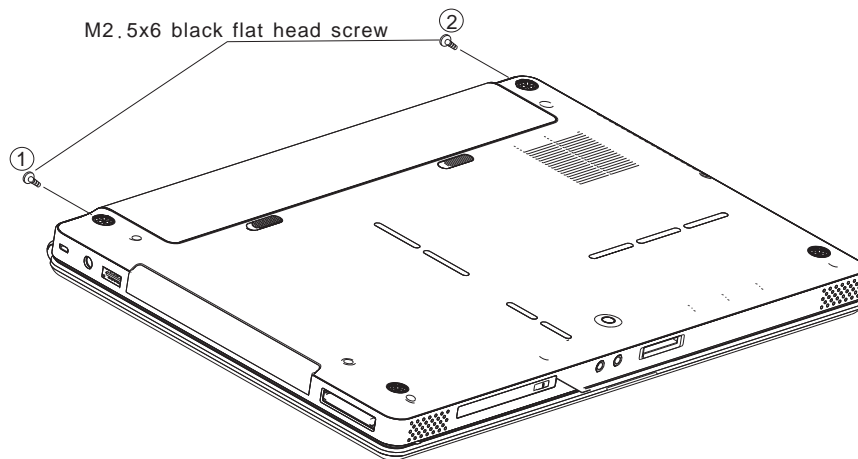

Figure 4-15 Removing the display assembly
Remove the display assembly according to the following procedures and Figures 4-15, 4-16.
1. Remove two M2.5x6 black flat head screws in the order shown on the figure4-15.
Install the display assembly according to the following procedures and Figures 4-15, 4-16.
5. Secure the display assembly with two M2.5x6 black flat head screws in the order shown on the figure4-15.